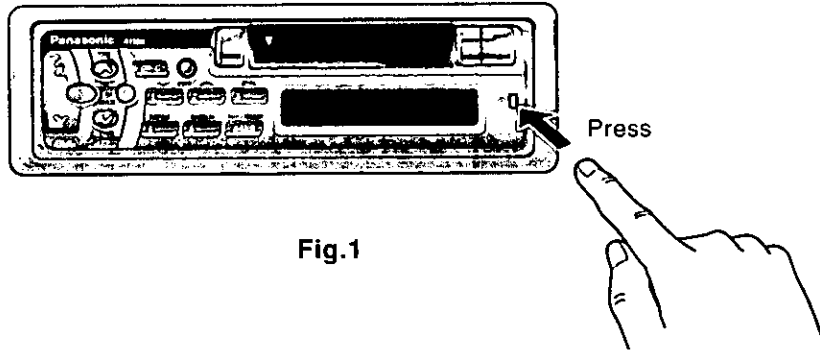

Fig.1
b) Pull out the unit while pushing two lock levers using Dismounting plate ⑧ in the following order. (Fig.1, 2).